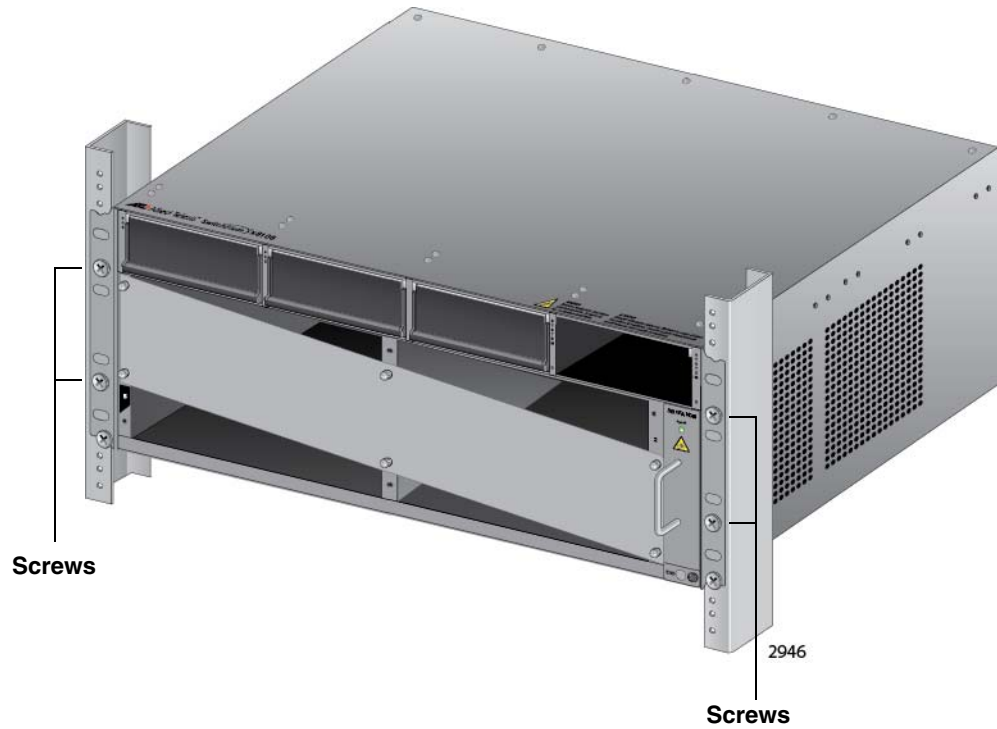

Figure 41. Installing the Rack Mount Screws
4. Install four rack mount screws (not provided) to secure the chassis to the equipment rack, as shown in Figure 41 on page 106.